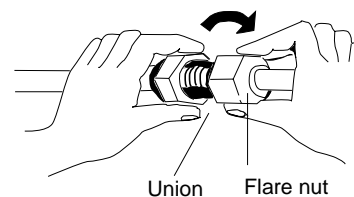

Fig. 46
- For proper connection, align the union tube and flare tube straight with each other, then screw in the flare nut lightly at first to obtain a smooth match. (Fig. 46)